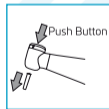

Fig. 4.2
4.2 Removing the Bur (Fig. 4.2)